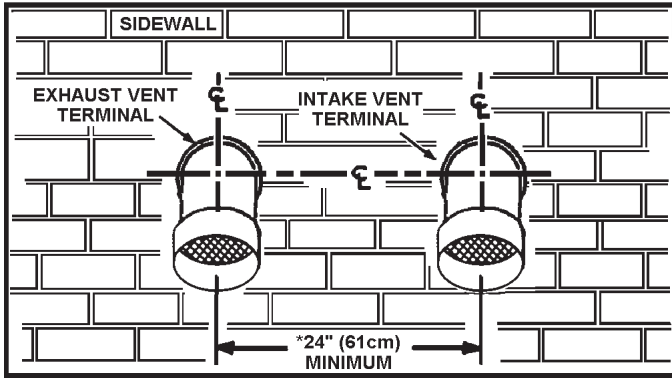

FIGURE 9.
1. The intake vent terminal and the exhaust vent terminal must terminate on the same exterior wall and must be located at a minimum of 24" (61cm) from the vertical centerline of the exhaust vent terminal (see Figure 9). In colder climates increasing the 24" (61cm) minimum to 48" (122cm) will reduce possibility of frost over from side winds blowing exhaust vapors to the air intake of the direct the vent and is recommended for Canada.
- The horizontal centerline of the intake vent terminal may not be located lower than the horizontal centerline of the exhaust vent terminal (see Figure 9).